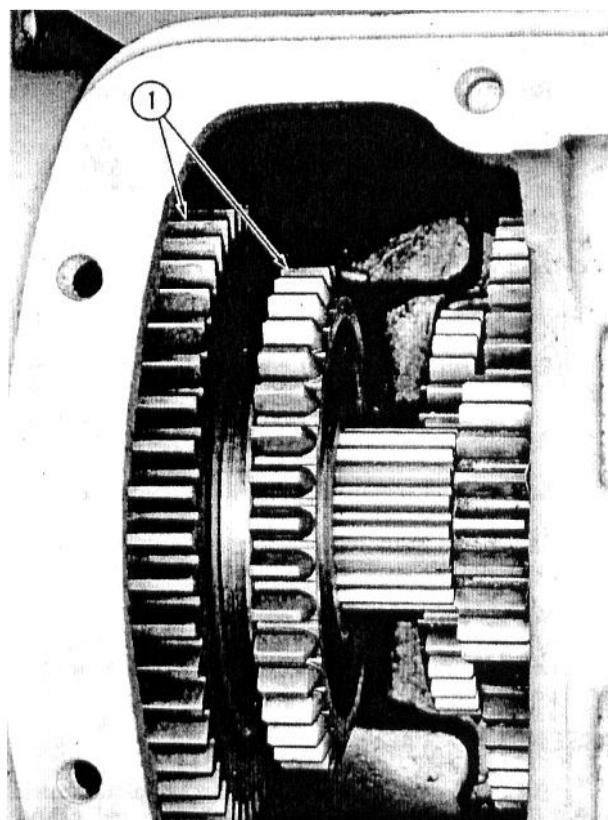

Fig. 64 — Main Shaft and 2-Gear Cluster Installed
5. With the rear support bearing installed onto the upper main drive shaft, thread the shaft through the gear cluster and into its front support. See Fig. 64.